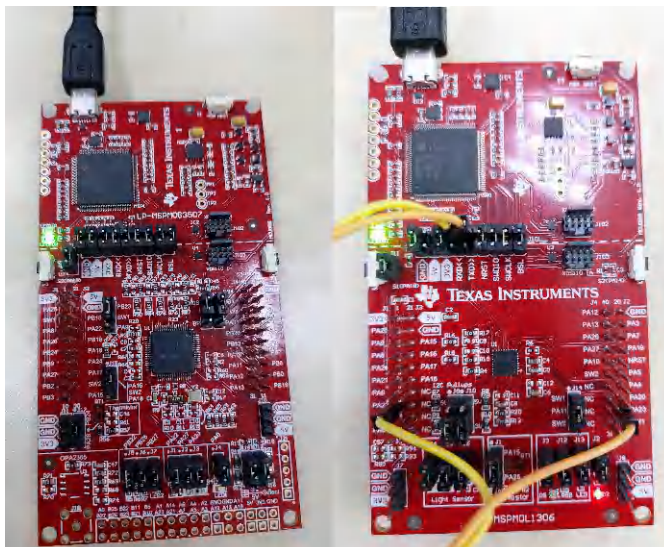

Figure 3-2. LaunchPad Kit Connection (Left: LP-MSPM0G3507, Right: LP-MSPM0L1306)
1. Connect the target device and the XDS110 to the PC. When using the XDS110 integrated in the LaunchPad kit, connect the micro USB cable to the PC as Figure 3-2.